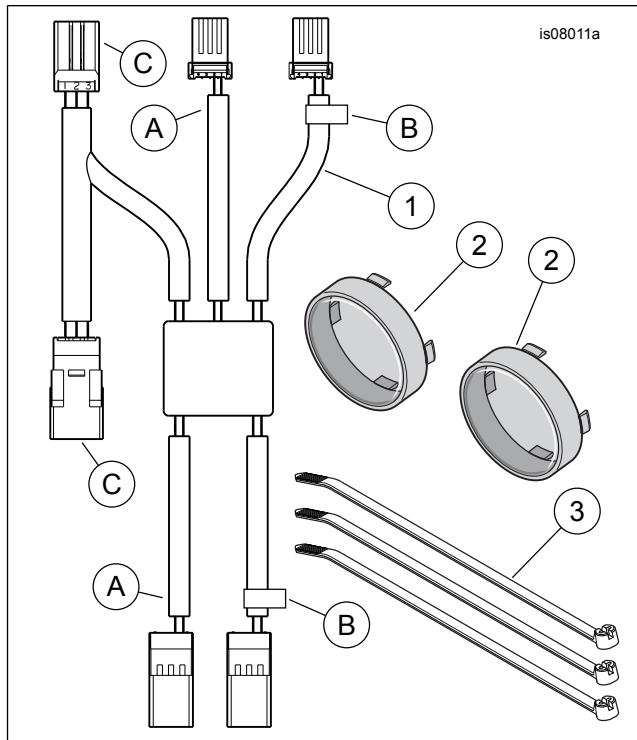

Figure 2. Service Parts, Auxiliary Brake/ Run/ Turn Signal Conversion Kit
See Figure 2 and Table 1.
2. See Figure 2. Get the turn signal module (1) from the kit.
- Plug the turn signal module four-way connectors with **no** tape flags (A) into the brown-tape flagged turn signal connector halves [18] on the main vehicle harness and right turn signal wires.
- Plug the turn signal module four-way connectors with white tape flags (B) into the unflagged turn signal connector halves [19] on the main vehicle harness and left turn signal wires.
- Plug the turn signal module three-way connectors (C) into the main vehicle harness and tail lamp connector halves [40].